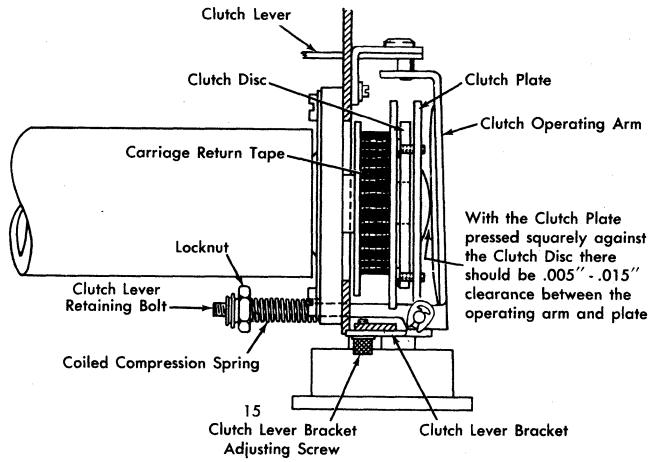

Figure 31. Clutch Clearance Adjustment
15. Adjust the clearance between the clutch plate and the clutch disc to .010" \pm .005" by positioning the bracket on the bottom of the side frame (Figure 31). For typewriters used with the 24D Document Writing Feature, this clearance must be .012, +.003 - .002.